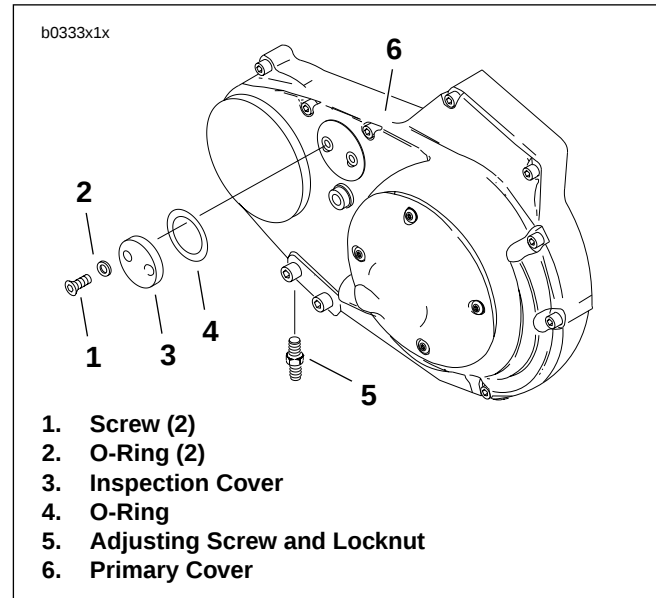
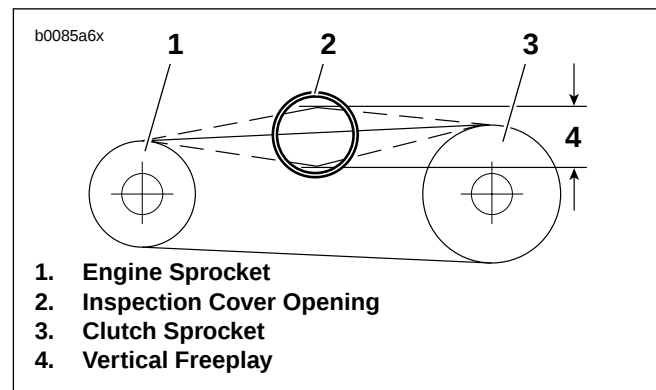

Figure 1-28. Primary Chain Inspection Cover
Figure 1-29. Measuring Primary Chain Tension
See Figure 1-28. Measure primary chain tension through the inspection cover (3) opening. Adjust primary chains not meeting vertical freeplay specifications.
1. See Figure 1-28. Remove two screws (1) and O-rings (2).
2. Remove inspection cover (3) and O-ring (4) from primary cover (6).
3. See Figure 1-29. Check primary chain tension by measuring vertical freeplay (4).
- a. Measure vertical freeplay through inspection cover opening (2).
5. See Figure 1-28. Install O-ring (4).
6. Fasten inspection cover (3) to primary cover (6) using two screws (1) with O-rings (2). Tighten to 40-60 **in-lbs** (5-7 Nm).